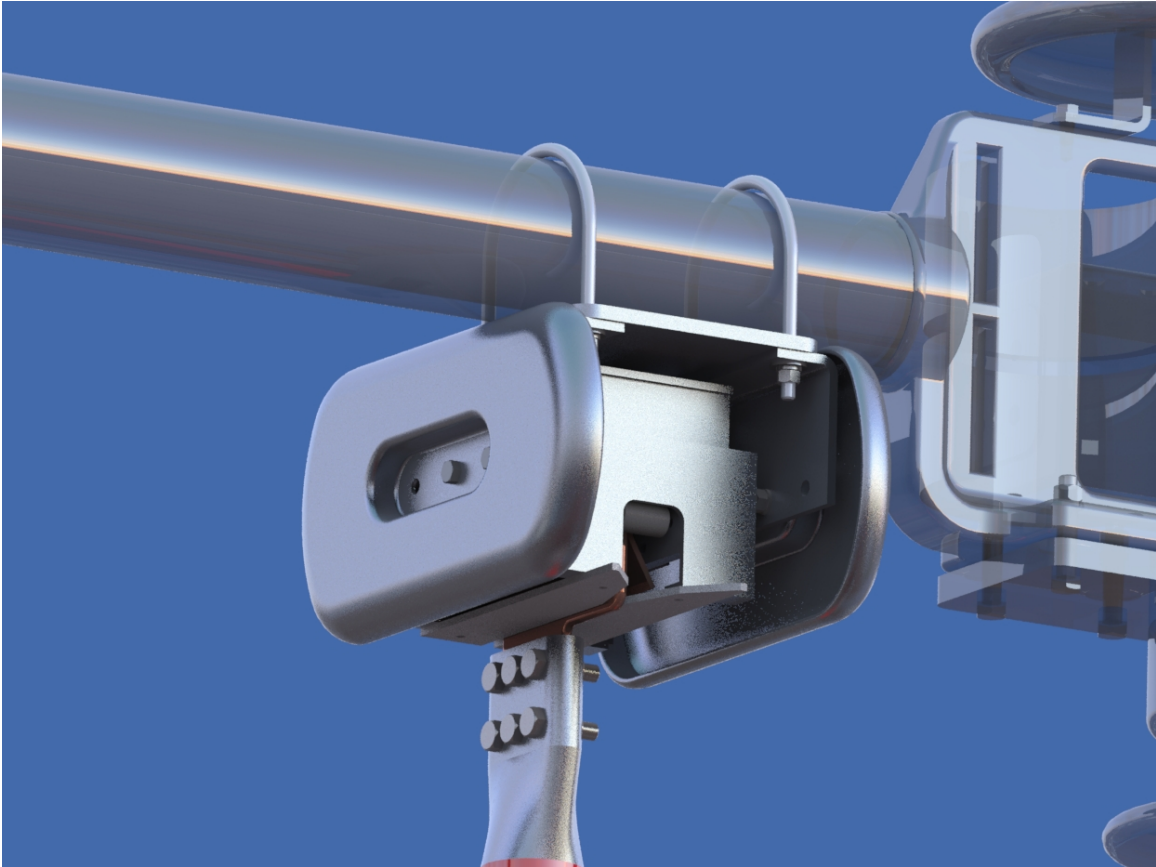

Figure 9: Blade Fully Closed
3.2.3.2. Full closed, this is a 2 step process. Refer to **Figure 9**